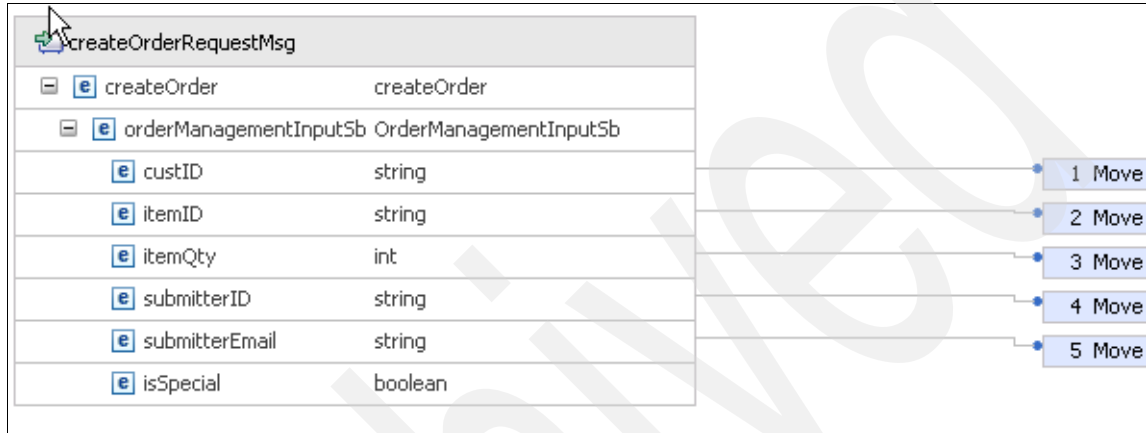
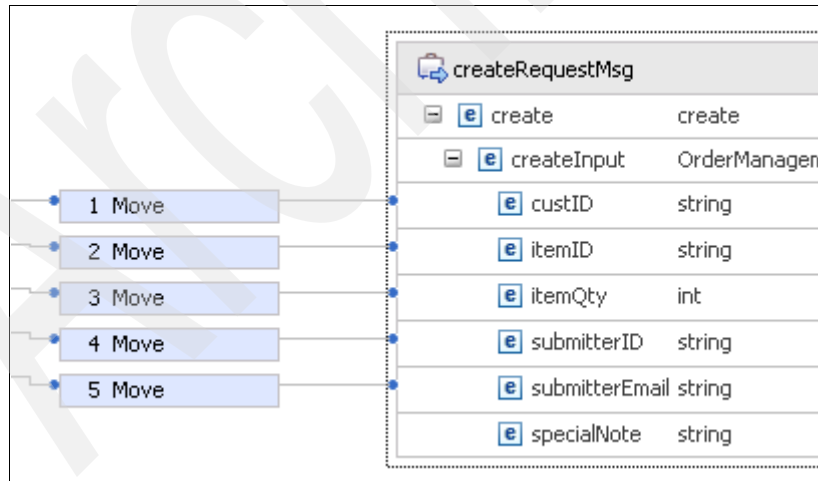

Figure 4-46 Order2OrderSpecial Mapping left side
Figure 4-47 Order2OrderSpecial Mapping right side
- a. Keep the default Move operation for all connections, as shown in Figure 4-46 and Figure 4-47.
**Note:** Figure 4-46 and Figure 4-47 represent the left and right halves of the business object map. The panel is too wide to represent it fully.